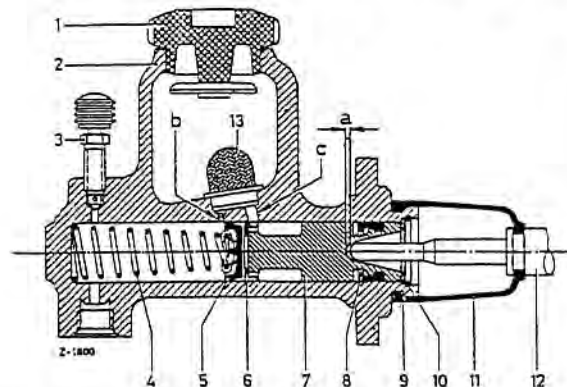

Fig. 29-3/4
The construction of this supply cylinder is similar to that of the 2nd version except that the piston (8) is provided with a valve (6). When the clutch pedal returns quickly to its release position, this valve ensures that the space in front of the piston is quickly refilled with brake fluid so that no air can enter the hydraulic system via the extraction cylinder (Fig. 29-3/3).
The length L of the piston rod is 56 mm (Fig. 29-3/5).